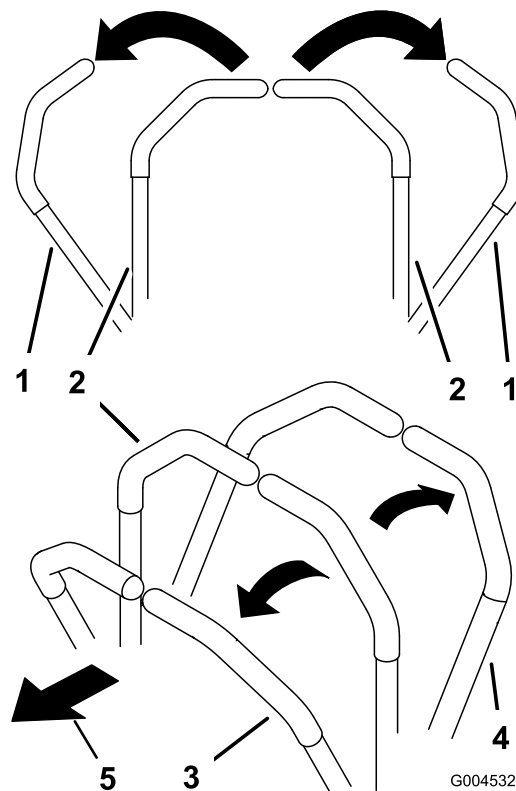

Figure 18
2. To go forward, slowly push the motion control levers forward (Figure 18).
To go straight, apply equal pressure to both motion control levers (Figure 18).
To turn, release pressure on the motion control lever toward the direction you want to turn (Figure 18).